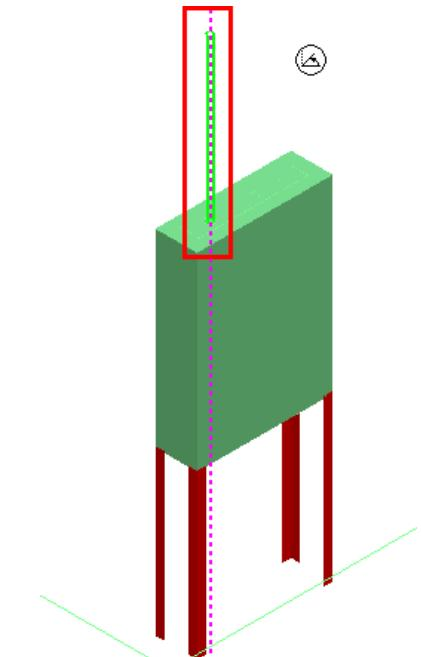

Figure 10: Conduit Run in the Upward Direction
54. Move the cursor in the elevation **EL** direction in the graphic view and click in the graphic view to accept the position of the conduit, as shown in Figure 10.